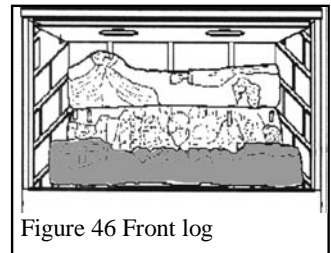

Figure 46 Front log
4. Place the front log at the front of the firebox as shown in figure 46.
As described in section 11, for natural gas appliances, the burner aeration is adjustable. For the vast majority of installations, no adjustment will be necessary. However, in a very few instances, performance may be improved by sliding the shutter to adjust the aeration by (See figure 46). Evaluate the aeration only after the unit has warmed up – approximately 15 minutes. Increasing aeration will cause the flame to appear more transparent and blue making the ceramic fuel effects glow more. Decreasing aeration will cause the flames to appear more yellow or orange making the fuel effects glow less. ***Too little aeration may result in black carbon forming and dropping into the firebox.***